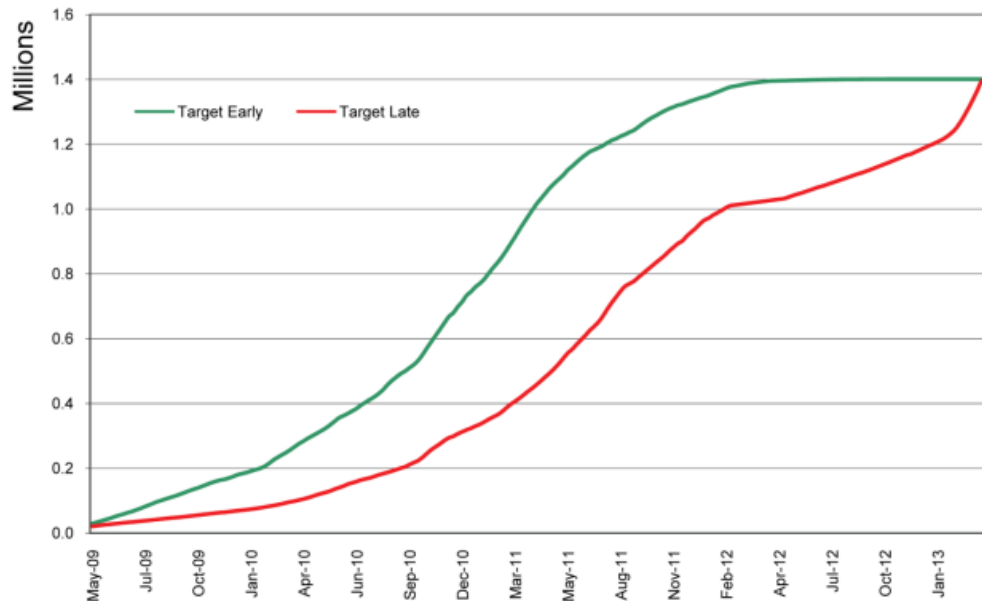

Figure 3 – Typical S-Curve with Early and Late Dates
- ❑ This information can then **easily** be put in a **graphical format** as shown in figure 3 below: